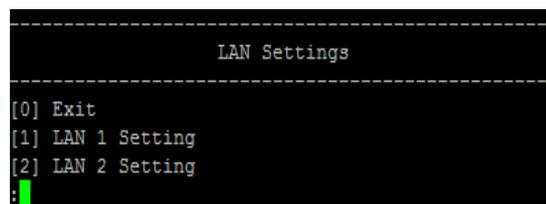
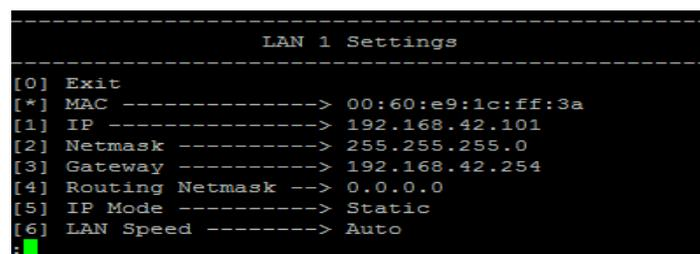

Figure 4.8 LAN Settings
Figure 4.9 LAN1 settings
Select item 1 to enter "LAN Setting" menu as Figure 4.8, and setup IP/Netmask/Gateway of LAN1 as Figure 4.9